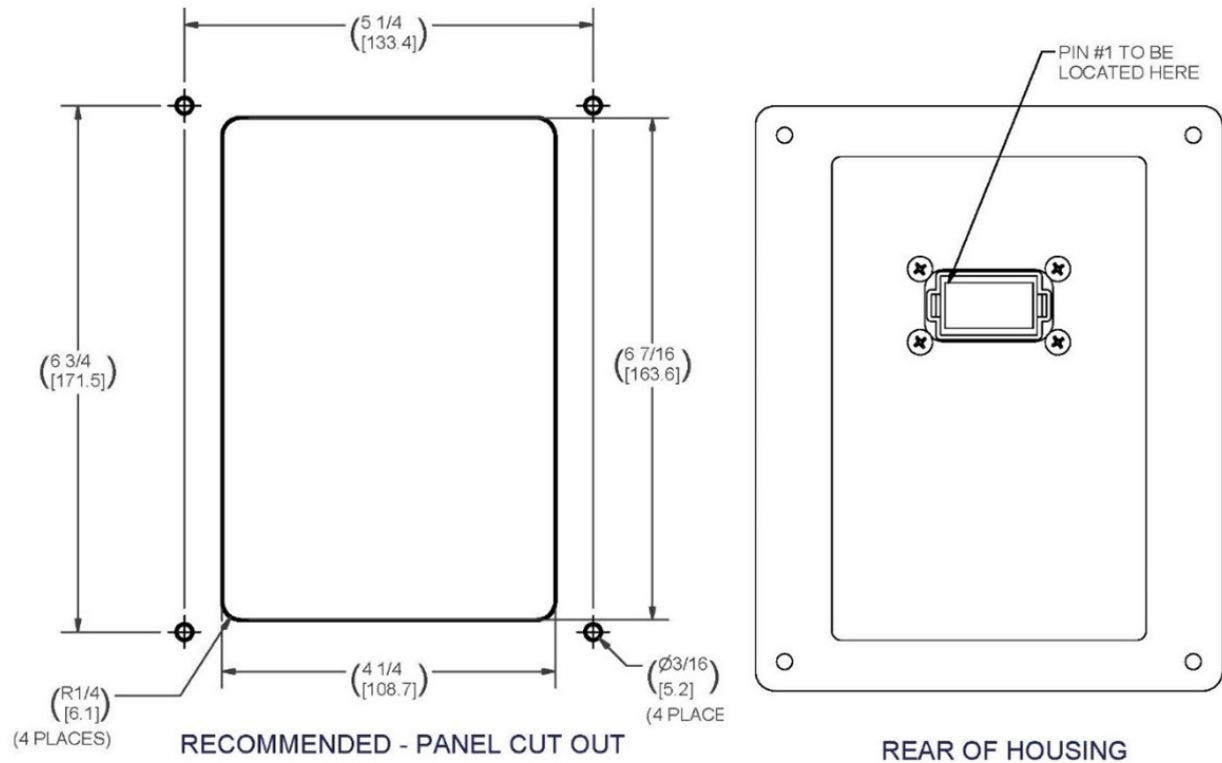

Figure 5-6 PMRC Panel Cutout Dimensions
1. Cut the panel according to the dimensions shown in Figure 5-6.